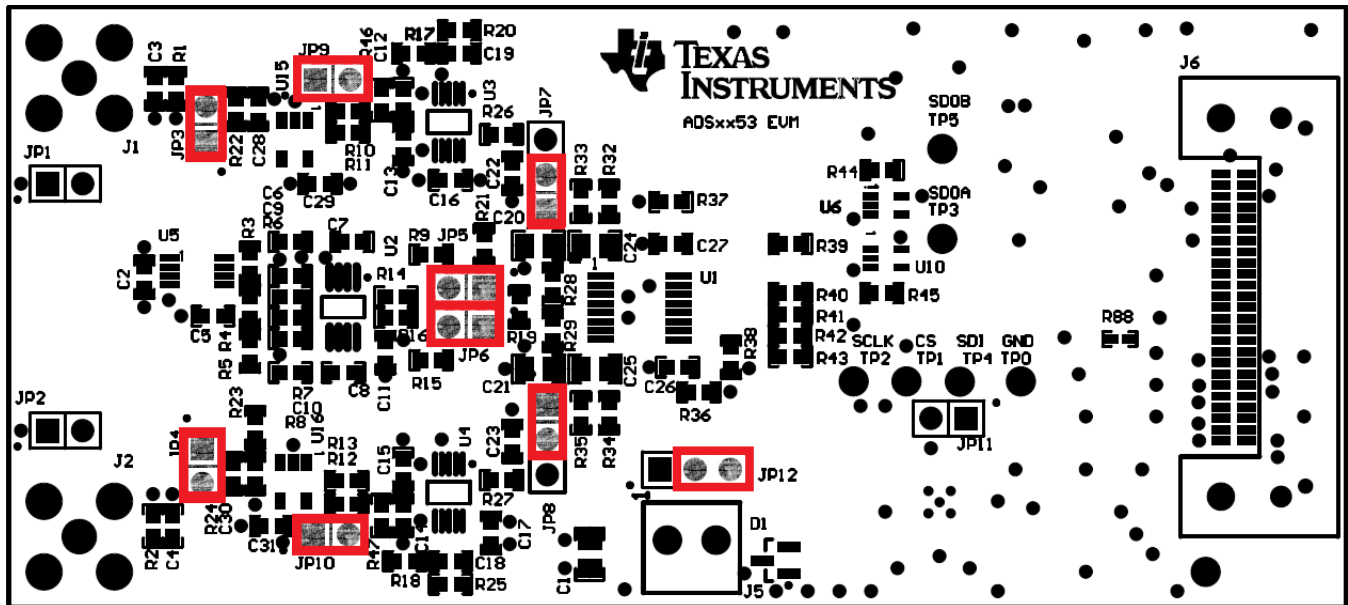

Figure 6. ADSxx53EVM Default Jumper Settings
Figure 6 shows the silkscreen plot detailing the default jumper settings. Table 6 describes the configuration for these jumpers.
- Step 2. Verify the ADSxx53EVM jumpers are configured; see Figure 6.
- Step 1. Make sure the EVM kit is configured and powered up as explained in Section 5.2.2 and Figure 6.